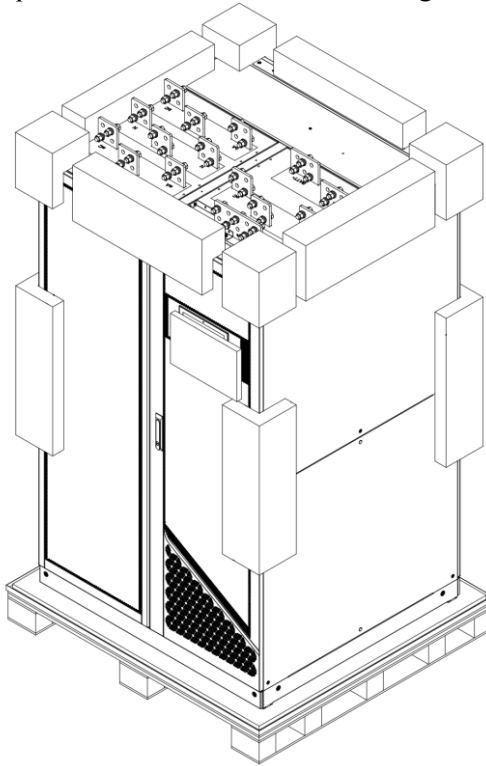

Figure 3-39 Open the wooden box
Step 3: Pry open the buckles to open the wooden box, as shown in Figure 3-39;